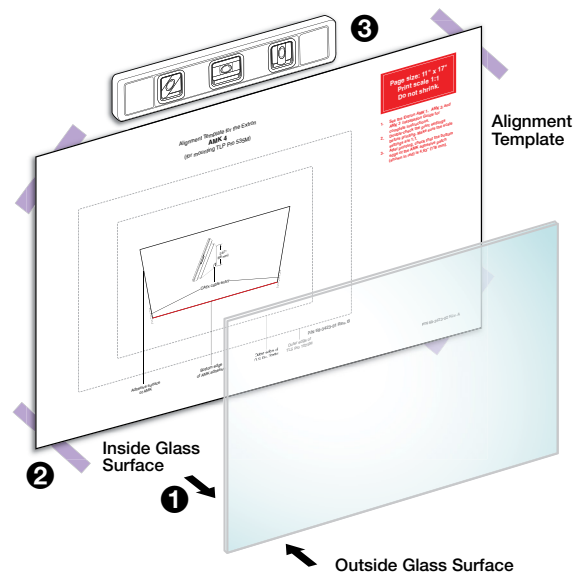

Figure 3. Placing the Template
2. Place the alignment template on the inside glass surface (see figure 3, 1).